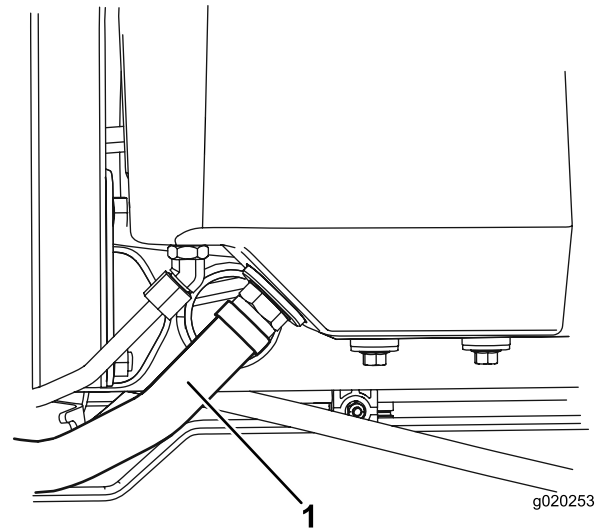

Figure 79
2. Disconnect the large hydraulic hose (Figure 79) from the reservoir and let the hydraulic fluid flow into a drain pan.